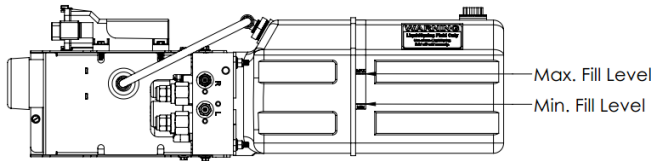

Figure 1. Fluid Fill Levels
6. Monitor the fluid level in the reservoir. If the level drops below the minimum level as indicated on the reservoir, press the ON/OFF button to shut off the system, refill the reservoir, and turn the system back on by tapping the screen and pressing the red ON/OFF button. Refer to **Figure 1** on the following page for fluid fill levels.
8. After the suspension system stops leveling, check the fluid level in the reservoir. If low, fill to the indicated line. Use of a small transfer pump can assist reservoir filling. Refer to **Figure 1** for fluid fill levels.